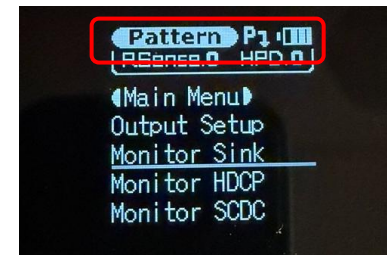

Figure 1
2. Using the Task Mode button, toggle until the screen displays the word Pattern. (figure 1)
The XA-3P has 23 selectable output resolutions and 11 selectable static Test Patterns. The first screen in Output Setup mode shows these options. (figure 1)